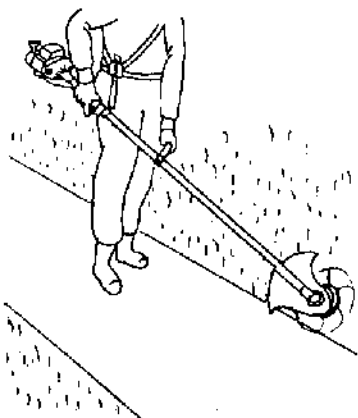

Fig. 6
- Tilt the unit vertically as illustrated and use only the line tip to remove unwanted growth. See Fig. 6